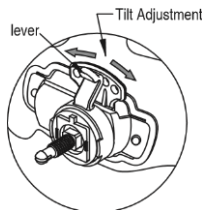

Fig.4
- TILT: Tilt adjustment is located on right side of face shield. Loosen the right block nut and push the top end of the adjustment lever outward until the lever's Stop Tab clears the notches. Then rotate the lever forward or back to the desired tilt position, no need to remove the face-seal. The Stop will automatically engage again fig.4 when released locking the face shield into position (See fig.4).